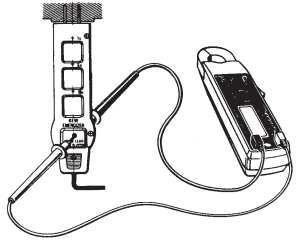

Fig. 13
- (3) When measuring AC voltage, connect the ENERGIZER to AC power outlet or appliance under test the same way as outlined for AC current measurement. With the test leads plugged into the VOLT and OHM terminals of the instrument, connect one test lead prod to the “VOLTLEAD” terminal on one side of the energizer and the other prod to the “VOLTLEAD” terminal on the other side (Fig. 13). This will permit easy voltage measurement up to 300 V AC without the trouble of cutting off the cord.